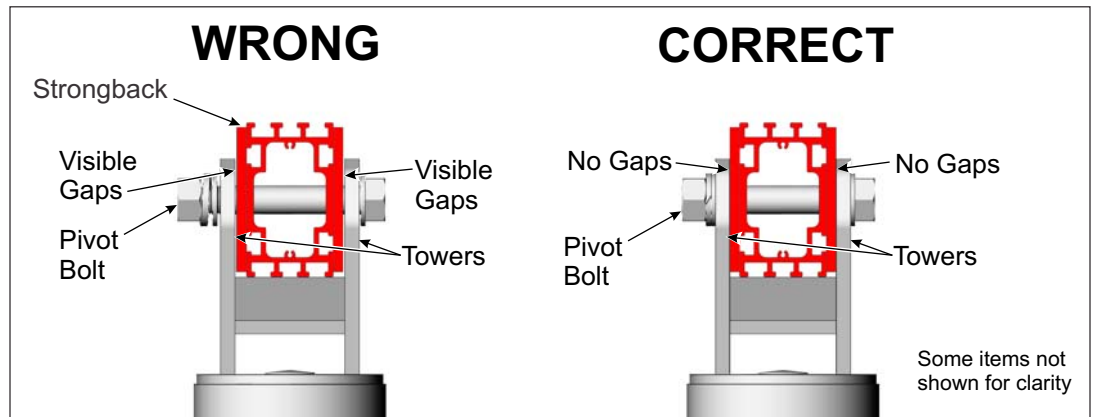

Figure 4-4: Tighten and Torque the Pivot Bolt
- H. Return and tighten the Pivot Bolt. The Pivot Bolt cannot be left loose - the Mounting Sleeve Vertical Towers must be firmly clamped to the sides of the Strongback eliminating any gaps between the Vertical Towers and the Strongback. **Torque to 125-150 ft.-lbs.** (See Figure 4-4)